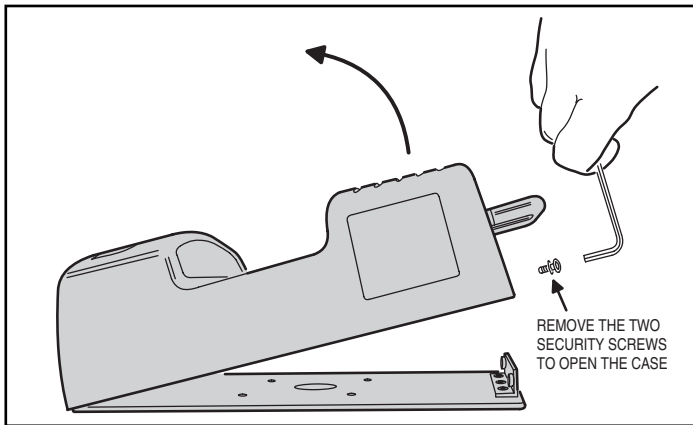

Figure 1. Opening the RE-1 Case
1. Open the RE-1 case by removing the two security screws with the wrench provided (see Figure 1).